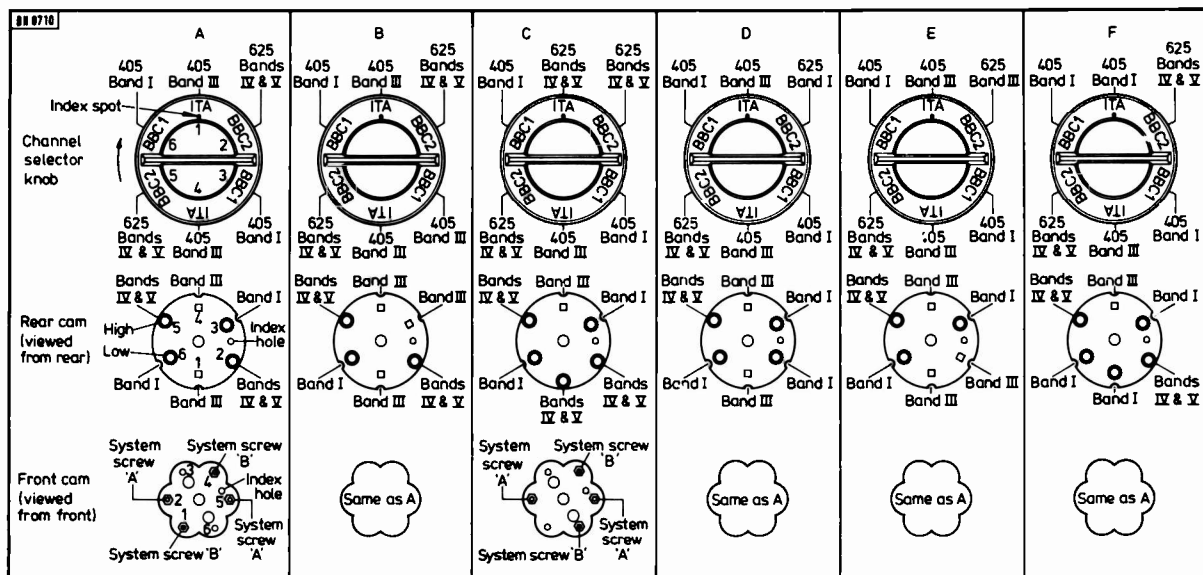

Fig. 5: How to alter the tuner band and channel selection.
quite simply by rotating through 180° or removing one of the cam buttons at the rear of the tuner and/or rearranging the position of the system screws on the tuner front cam. The cam buttons determine the Band coverage and the system screws the line system. A number of variations is shown in Fig. 5: A as despatched from the factory; B with BBC-1 converted to Band III; C with ITA converted to Bands IV/V; D with BBC-2 converted to Band I (625); E with BBC-2 converted to Band III (625); F with ITA converted to Band I. In each case the channel selector knob is viewed with the ITA position such that the small index spot is below the T at top centre and the two cams are in the same relative positions viewed from the rear and front respectively.
*To convert A to C:* Remove back cover, turn channel selector so that ITA (index spot) or pointer is at bottom centre then remove knob by depressing the spring-loaded key (accessible from inside the cabinet). With Fig. 5 inverted to correspond with the position of the tuner remove system screw B from position 1 and refit in position 6 through the knob aperture. Replace the channel selector knob and turn ITA (index spot) or pointer to top centre. Insert additional cam button in position 1 (of the rear cam) in the "high" position.